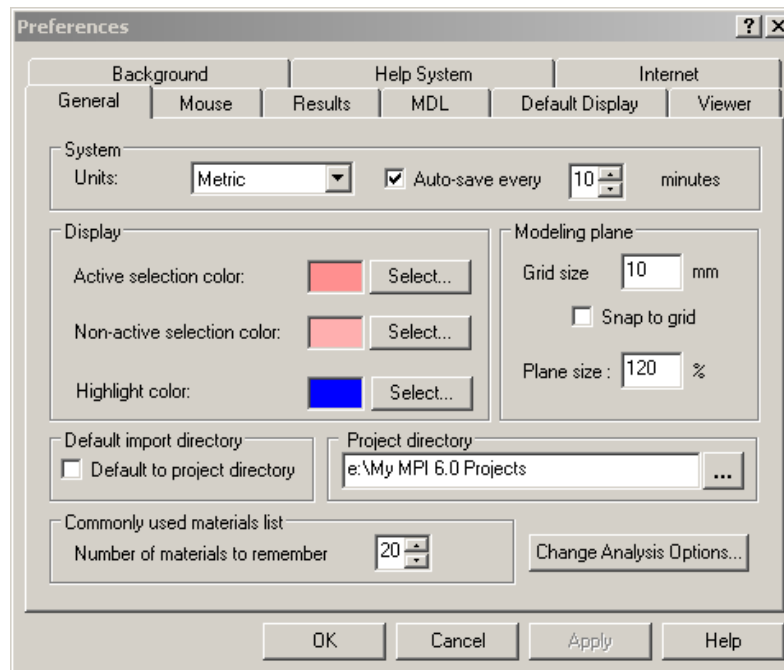

Figure 228: Modeling plane grid preferences dialog
1. To access the modeling grid specifications click **File** ➔ **Preferences**. The modeling grid specifications are shown in Figure 228: